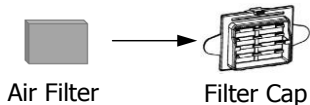

Fig. 18-7
(1) To clean or replace air filters, open the filter cap and remove the standard air filter, place a new standard air filter into the filter cap, as shown in Fig. 18-7.